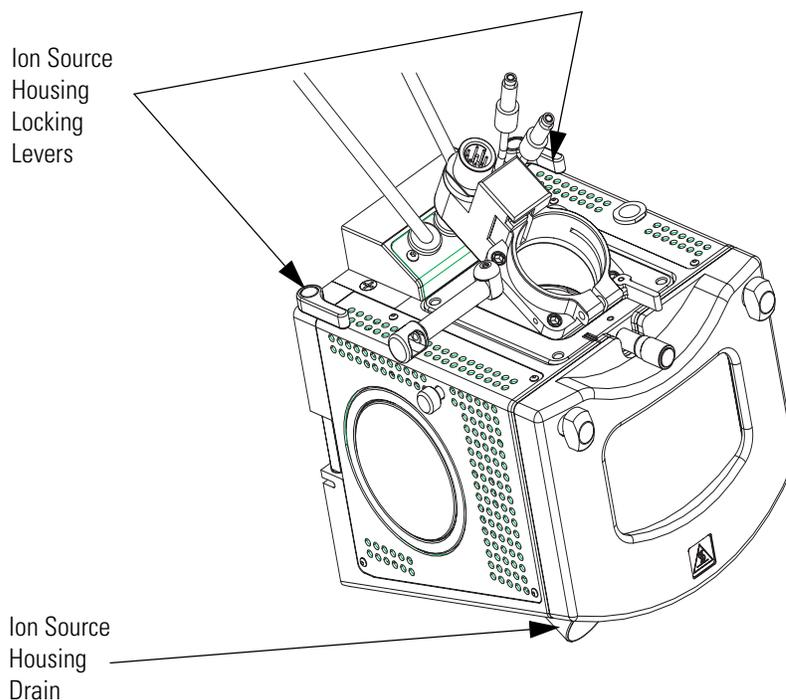

Figure 8. Ion Max ion source housing, detail of components
1. Remove the drain tube from the ion source housing drain. See Figure 8.